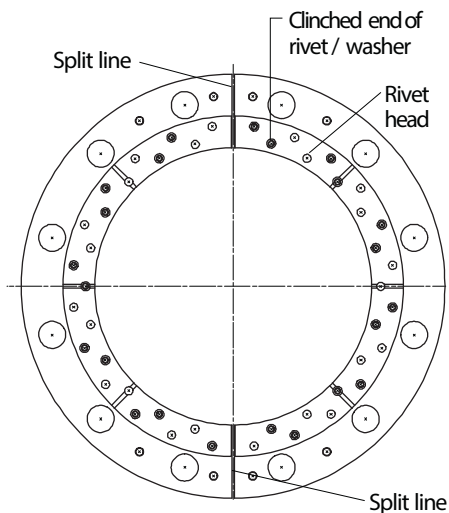

Figure 8
4.4.5.3 Position the friction discs on both sides of the friction disc core, as shown on figures 8, 9 & 10, and align the rivet holes in the friction discs with the rivet holes in the core plate.